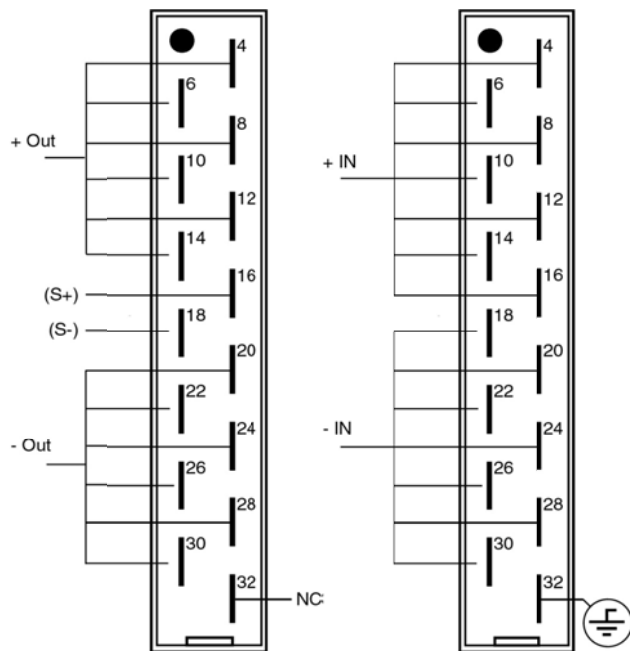

Figure 1. Pin-out on OUTPUT and INPUT DIN41612 H15 connectors.
All pins in one pole are parallel connected internally, *see Figure 1*. Therefore on C, D, 110, and 220 inputs only one input pin per pole needs to be used. It is also possible to supply 6 different outputs/loads or use a limited number of pins depending on the output current. E.g. 24V 25A only need two pins.
1. Check the pin-out, *see Figure 1*. Connect the protective earth pin 32 on the input connector. This provides safety against electrical shock and is required to achieve EMC performance according to the declaration of conformity.
1. Check the pin-out, *see Figure 1*. Connect the protective earth pin 32 on the input connector. On bolt/studs connector models the protective earth is a separate screw. Protective earth provides safety against electrical shock and is required to achieve EMC